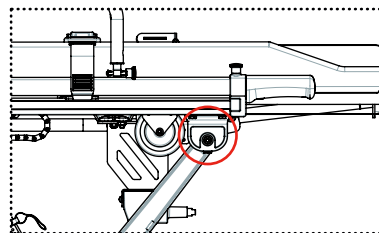

FIGURE 8
- ☐ Check the tightening torque of the screws that connect the legs to the upper part of the stretcher (see Fig. 8). The tightening torque must be 19.11 Nm.